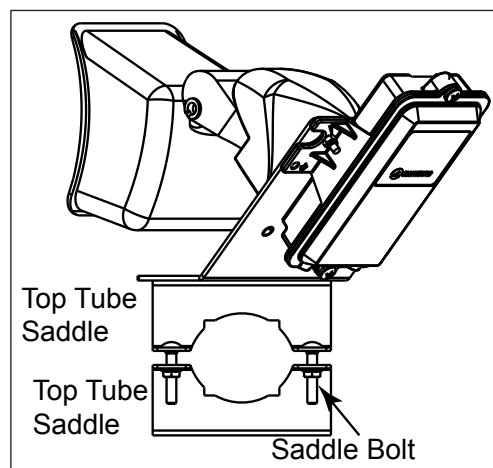

Figure 23: Mobotix Webcam Mounting
4. Slide the webcam between the top and bottom tube saddles until it is two inches from the end of the webcam arm. Refer to **Figure 23**.